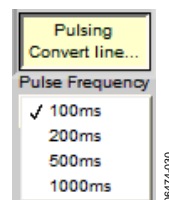

Figure 30. Pulse Frequency Selection Menu
- Once the **Pulse Convert line** button is pressed, a drop-down menu appears as shown in Figure 30. You can choose from one of four pulse frequencies. The four conversion frequencies to choose from are once every 100 ms, 200 ms, 500 ms, or 1000 ms.